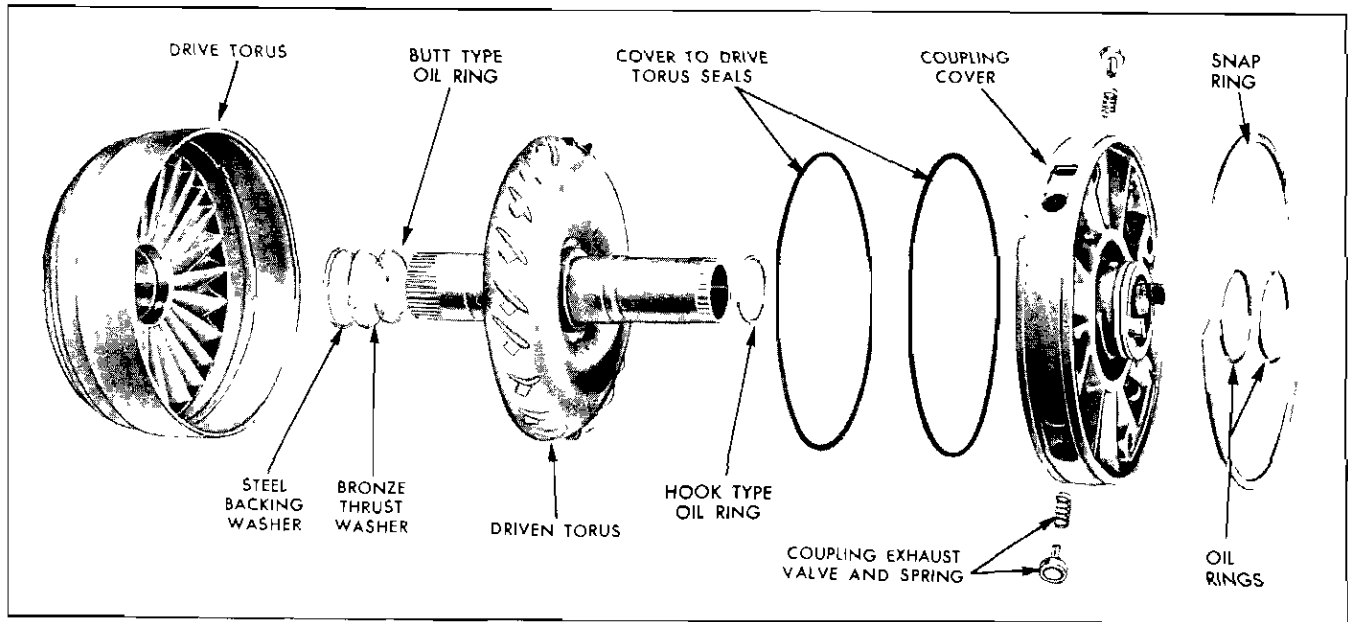

Fig. 119 Front Unit Coupling Ports—Exploded
3. Install two coupling exhaust valve retainers J-6122 to hold exhaust valves in position when removing cover (Fig. 119).
springs for collapsed or distorted coils (Fig. 119).